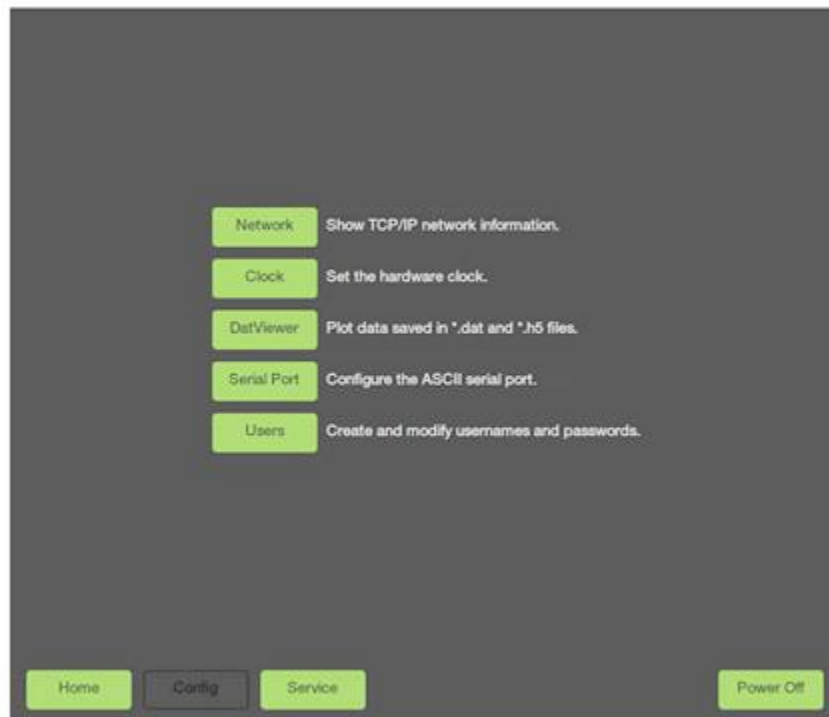
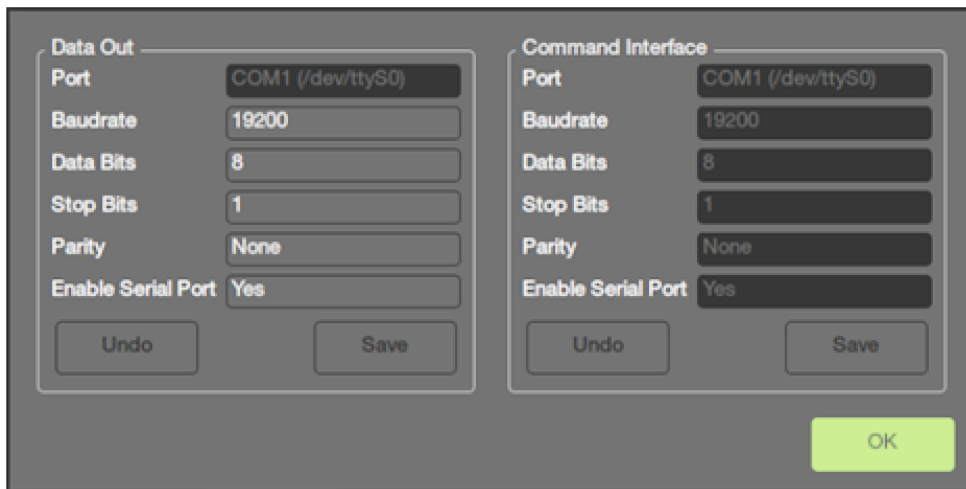
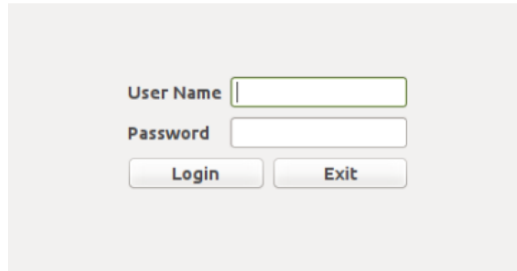

Figure 28: The Config Screen
Figure 33: The Serial Port Dialog
Figure 35: Users Login
4. The *Configuration* Menu displays. See Figure 28.
Click on **Clock** (Figure 28).
Click on Serial Port on the Config screen (Figure 28) to access the Serial Port Dialog. The serial port dialog lets you change the baud rate. Figure 33 shows the serial port dialog.
1. Click on the *Baudrate* dialog. Figure 33.
1. Click on **Users** (Figure 28) to access add users or change user permissions. The user login dialog displays. Figure 35.